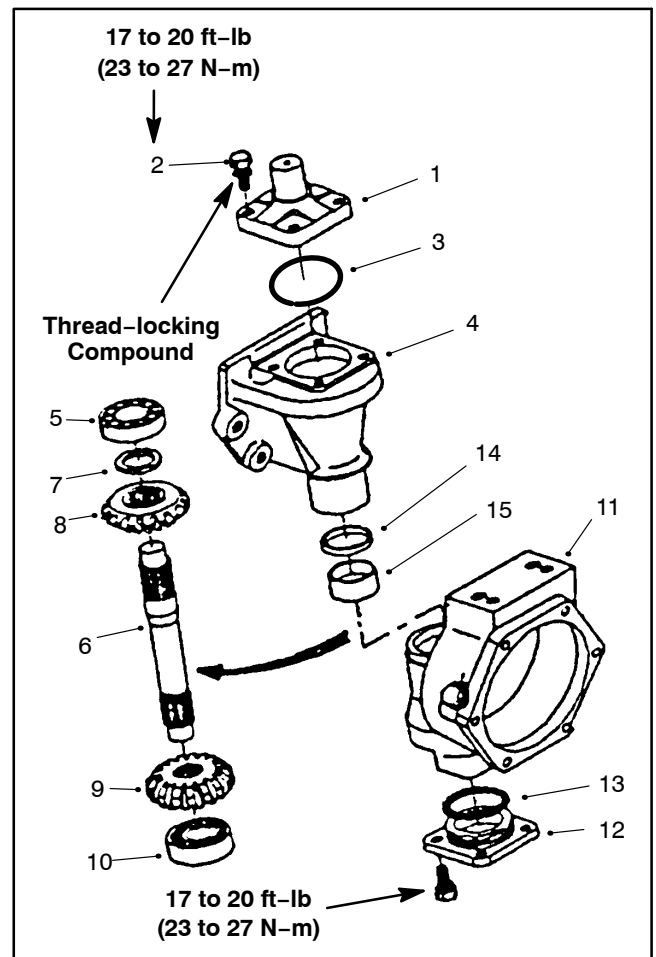

Figure 21
5. Remove the knuckle pin mounting screws and the knuckle pin. Remove the gasket and any remaining gasket material from either mating surface (Fig. 21).
10. Remove and discard bevel gear shaft seal from axle case (Fig. 21).